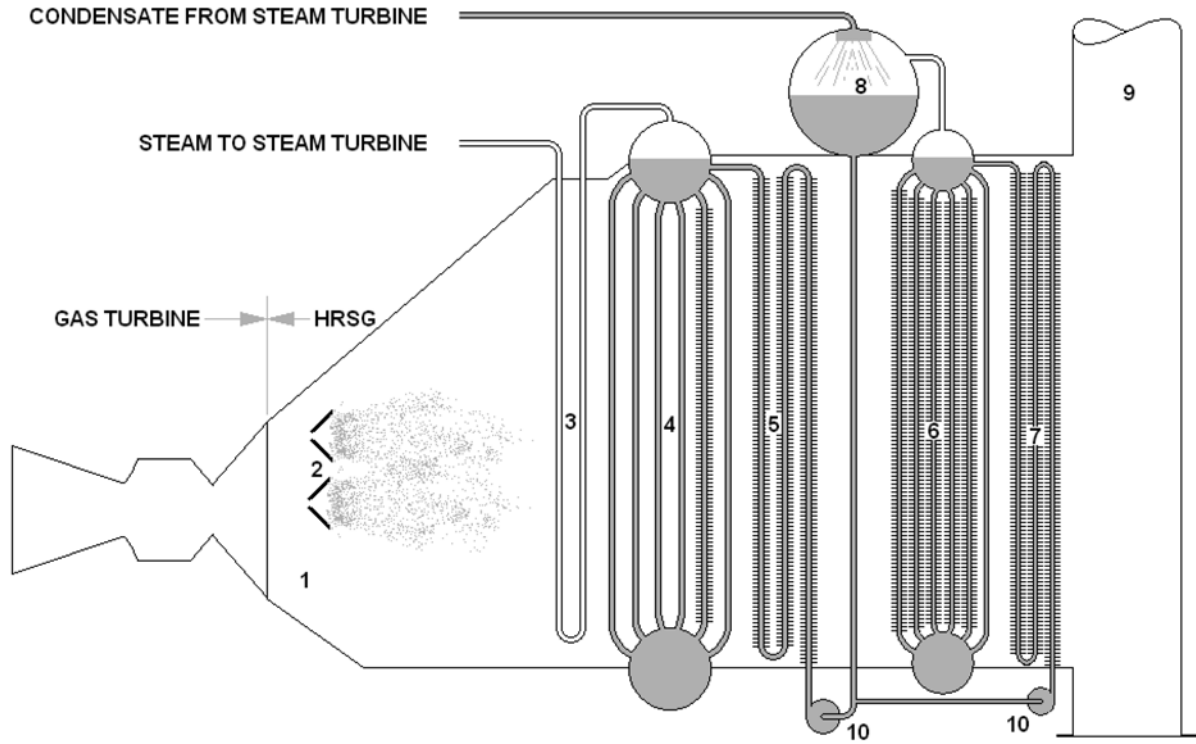

Figure 4-13. HRSG schematic.
The HRSG is, for all practical purposes, a boiler plant combined in one package and is shown schematically in Figure 4-13. It consists of (1) a GT exhaust duct that conveys the hot turbine exhaust to, and distributes the exhaust into, the first stages of the boiler portion. A duct burner (2) can be used to provide additional heat to the boiler section. The superheater (3) raises the temperature of the steam, as described for utility plants, before continuing to the ST. An HRSG could also contain a reheater. The boiler (4) generates the steam that supplies the superheater from the feed water heated by the high pressure economizer (5). After leaving the economizer, the flue gases enter a lower pressure boiler (6) with its own economizer (7). That boiler generates steam for the deaerator (8), which is typically mounted integral to the HRSG and is confused by some as another steam drum. Before discharging up the stack (9), the flue gas could be exposed to a condensate heater that preheats a mixture of returned condensate and makeup water. Feed water is fed to the two boiler stages by independent feed water pumps. The main feed to the main boiler can also be heated by an external high pressure feed water heater using extraction steam from the ST.